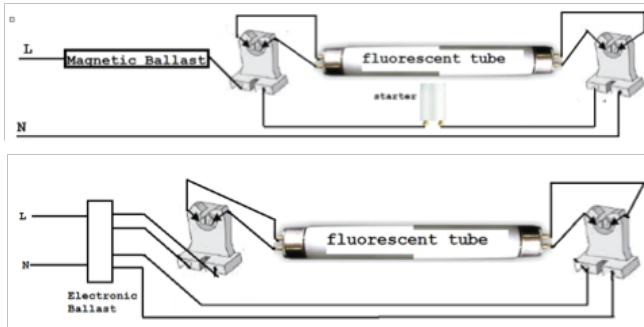

Fig. 1
STEP 1 - Disconnect the power to the luminaire. Remove diffuser if applicable. Check the label on your lamp to ensure it is compatible with the voltage of the luminaire. LED retrofit T8 lamps are suitable for 100VAC-277VAC luminaires. The original luminaire constructions as following **Fig 1**: